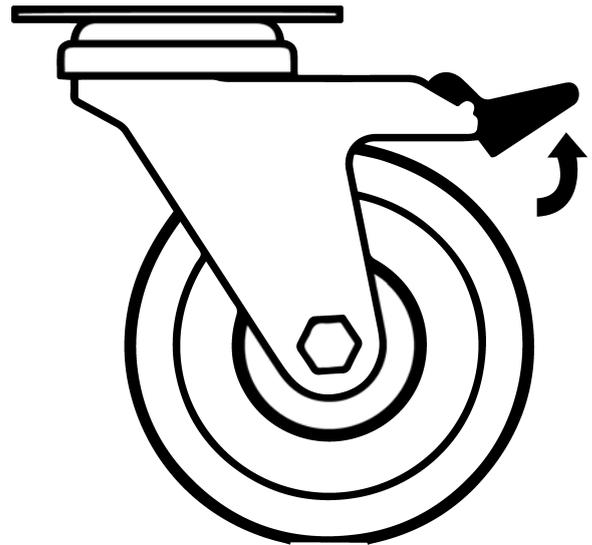

Fig 2 . Castor Unlocked
- Ensure when placing the Climatron cabinet into place that the castors can be accessed so they can be locked (**Fig 3**) and unlocked (**Fig 2**). Please contact your supplier or Thermoline should there be any castor damage.